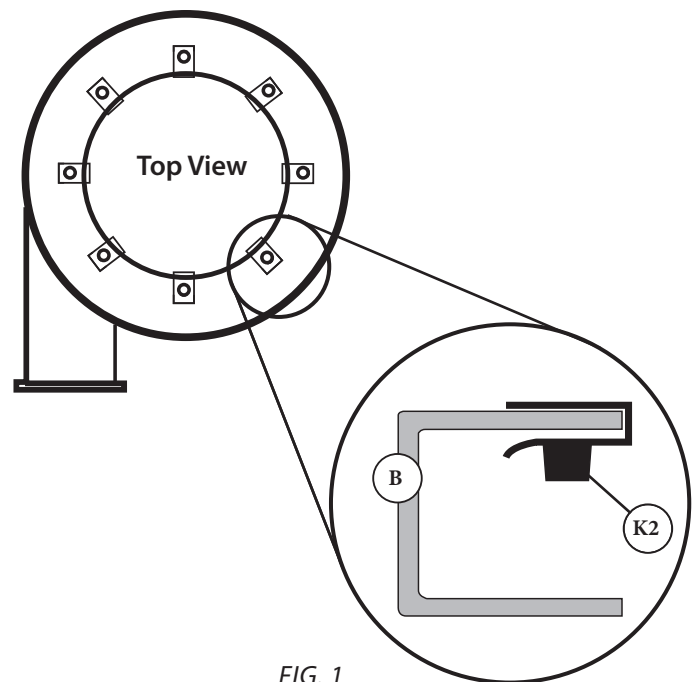

FIG. 1
Orient the Fan Housing (B) so that the molded “UP” text is visible and facing towards you. Push the U-Spring Nuts (K2) onto each of the holes lining the inside circle of the Fan Housing, making sure that the U-Spring Nuts align into the bolt holes of the housing. [FIG. 1]